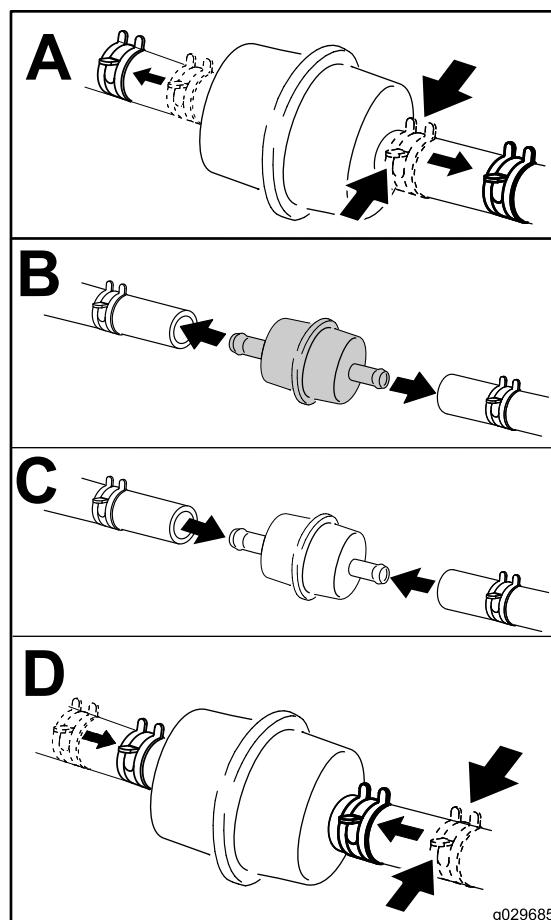

Figure 40
4. Replace the fuel filter as shown in Figure 40.